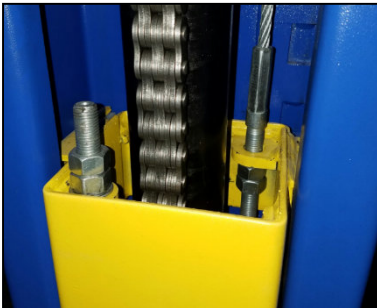

Fig. 8
4. Route the first cable. (**See Figs 8 & 9**)